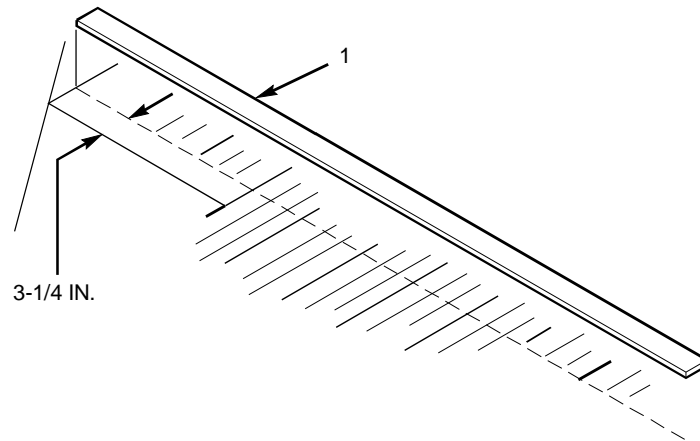

Figure 1-11. C-Partition Rubber Installation (4 Door Only)
- 1) Install C-partition rubber as follows (see figure 1-11).
- a. Cut rubber strip (1) as shown in figure 1-11. Apply double-sided tape to one side of rubber strip (1).
- c. Apply rubber strip (1) to vehicle as shown in figure 1-11.